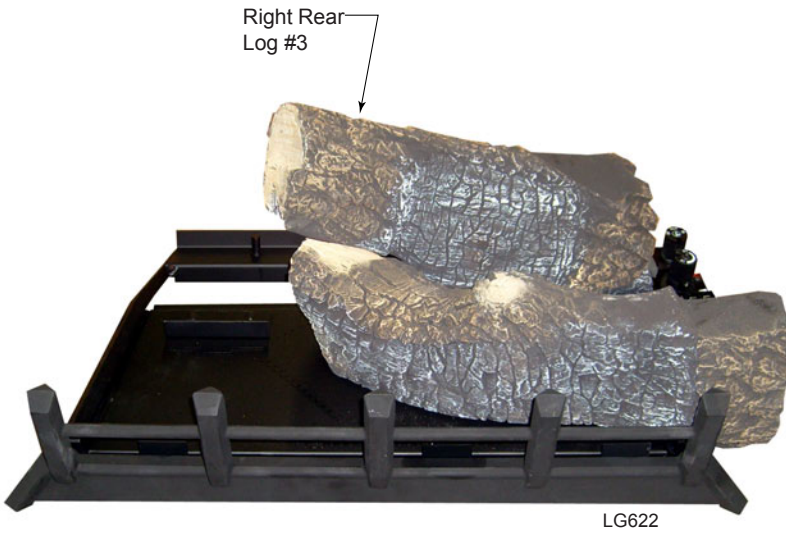

Figure 22
3. Place right rear log (#3) on pin located on rear support bracket and rest left side of log on front right log. *Figure 22*. After